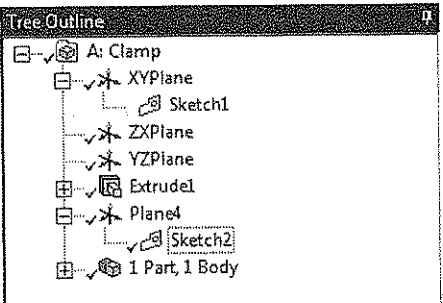

Figure 3-107 The new plane and sketch added in the Tree Outline
9. Invoke the **Modeling** mode by choosing the **Modeling** tab displayed below the **Sketching Toolboxes** window. The sketch of the cutout feature is created on Plane4 and is displayed as **Sketch2** in the Tree Outline, as shown in Figure 3-107.